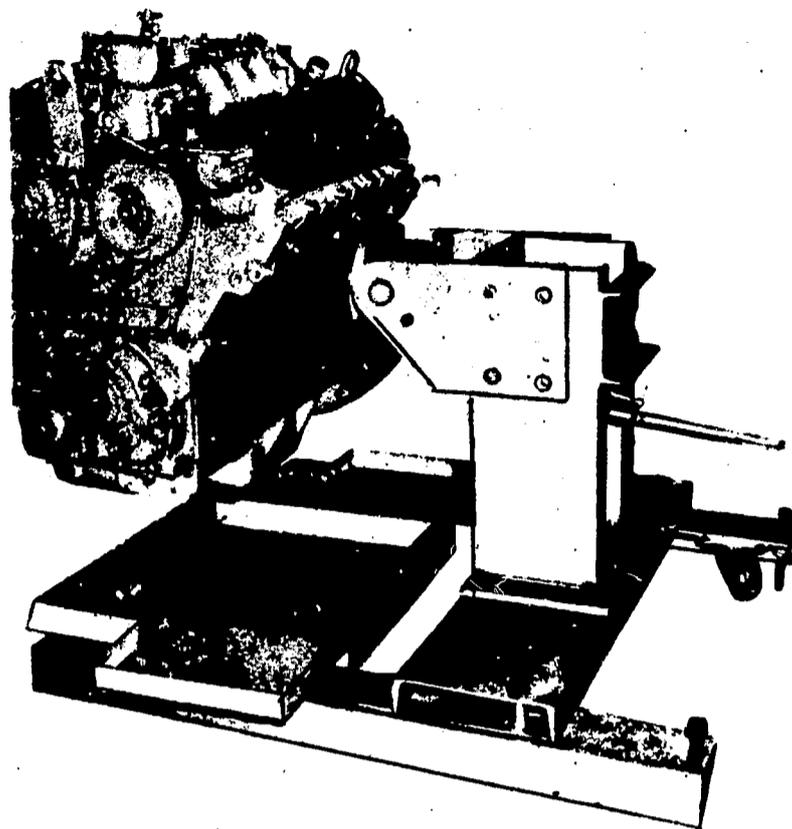

Fig. 11 Engine mounted on stand.
5. Keep the engine at a convenient height after it is removed from the vehicle. Do not set it on the floor. Use an engine stand; see Figure 11.